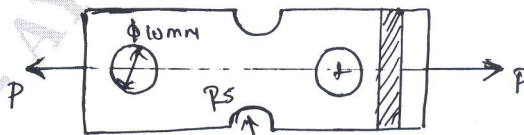

Fig.Q3(a)
- 3 a. Determine the safe load that can be carried by a bar of rectangular cross section as shown in Fig.Q3(a). The maximum stress is limited to 130MPa taking stress concentration into account.